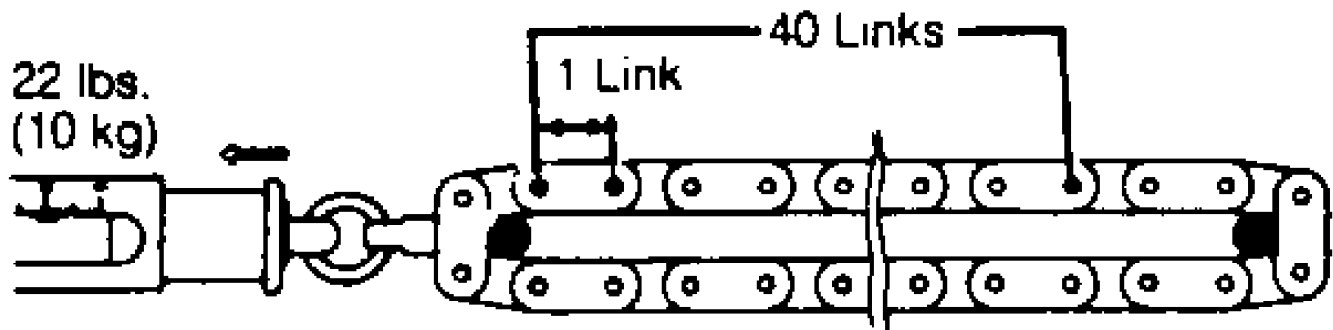

Fig. 5: Timing Chain Stretch Test On 1.9L Models
2) Using spring scale, check timing chain for stretch. Apply 22 lbs. (10 kg) of tension to chain and measure length of 40 chain links. See Fig. 5.